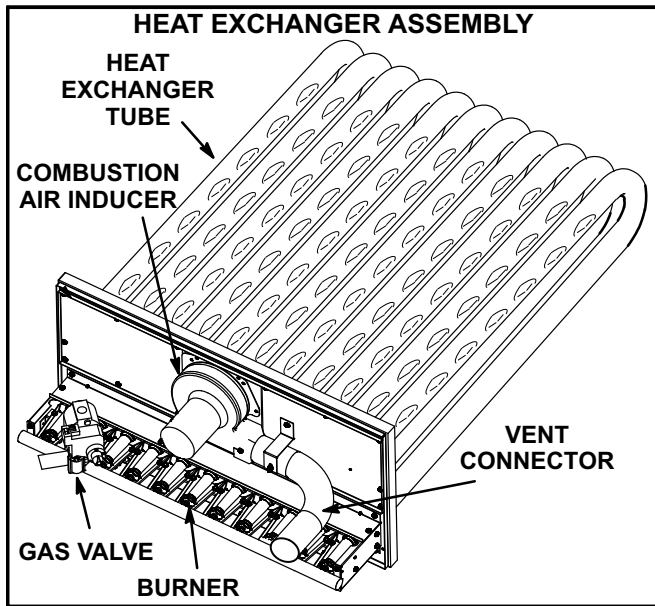

FIGURE 30
- 3- Remove and retain screws securing combustion air inducer to flue box. Remove and retain two screws from bracket supporting vent connector. See figure 30.